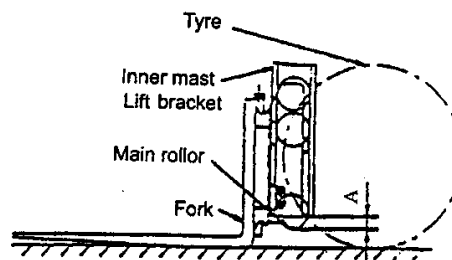

Fig. 8-6
5.4.2High-low adjustment of fork frame.see figure8-6